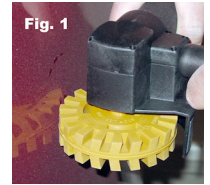

Fig. 2
5. Each 6673 is marked with arrows identifying when the wheel should be discarded. Do not use the wheel beyond this point as there is an internal metal disk that could damage the surface (see Fig. 2).